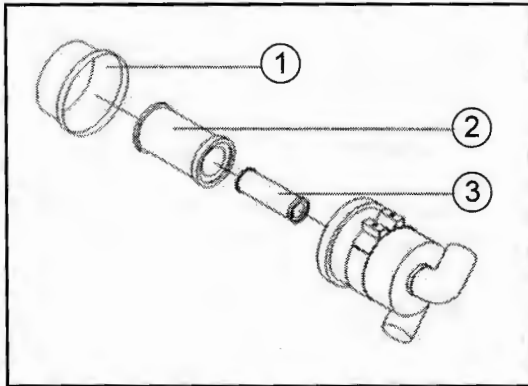

Fig. 38-1 - Air Cleaner
Remove the cover (1), change primary filter element (2) and safety filter element (3) regularly after **200** hours of operation. (See Fig. 38-1).